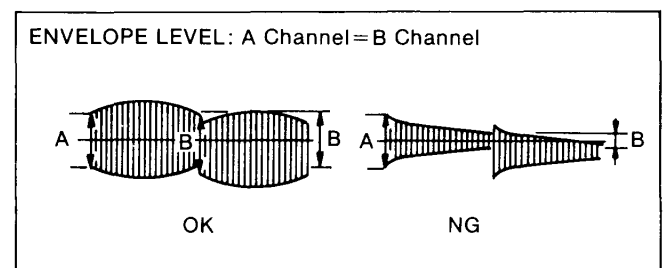

Figure E6
3. Adjust VR2205 so that the RF envelope becomes the same level between A and B portions as shown in Figure E6.